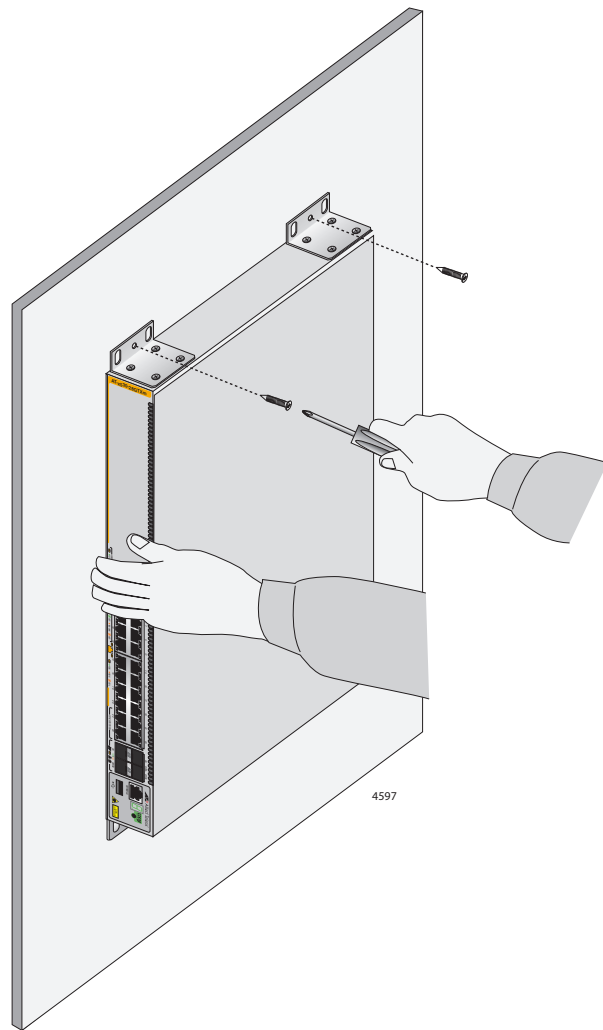

Figure 45. Installing the Switch on a Concrete Wall
7. Have another person hold the switch at the selected wall location while you secure it to the wall with the M4x32mm screws provided. Refer to Figure 45.